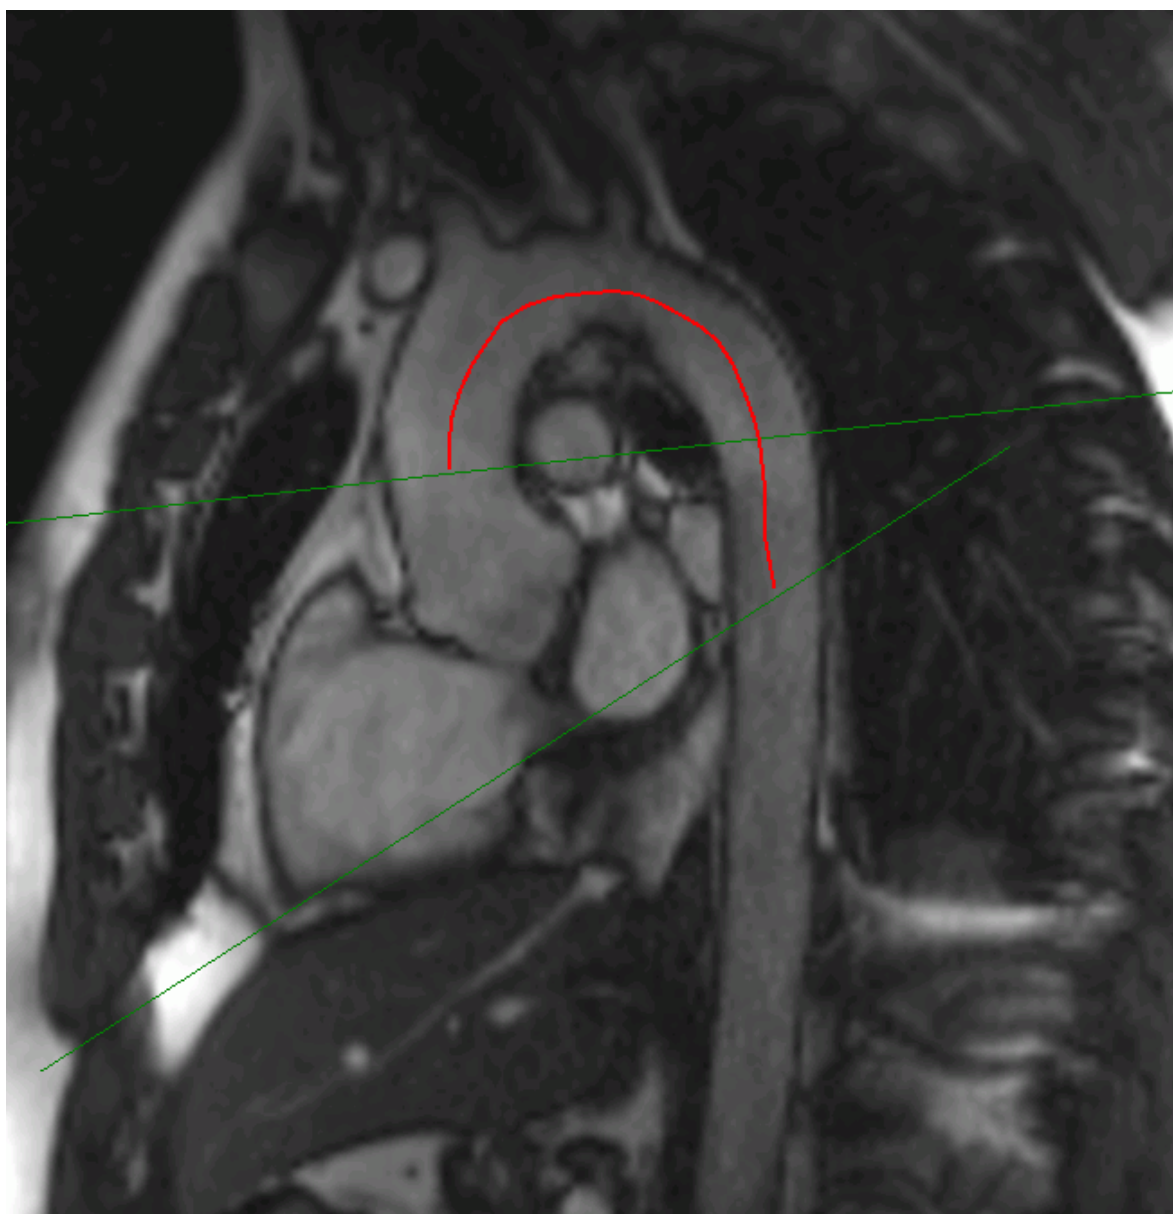

Figure 2.61: Trajectory for the pulse wave between the slices
4. To evaluate the **PWV** parameter, build a trajectory for the pulse wave between the selected vessel sections Fig. 2.61, (see Section 2.20.6). If there is no sagittal plane series